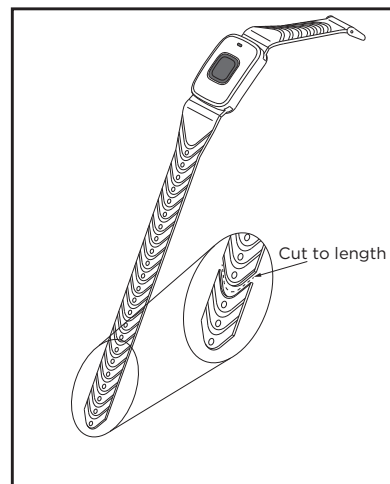

Figure 4: 1148 Personal Pendant with Wristband
2. Adjust the wristband to fit your wrist and trim excess band length using scissors by cutting along the thinned area between the clasp holes for a custom fit. See Figure 4.